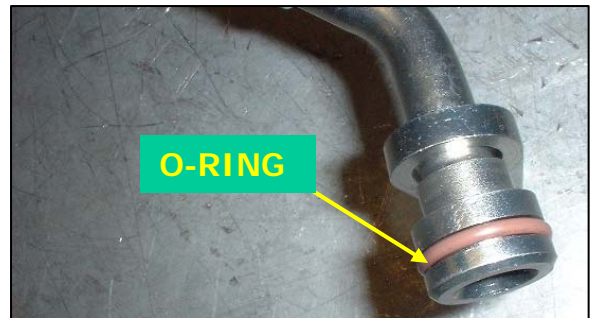

Fig. 31
34. **IMPORTANT:** Coat the supplied new oil drain o-ring with new motor oil and carefully install it on the end of the new oil drain line. Ensure that it is not twisted or crooked in the ring groove. See *Fig. 31*.